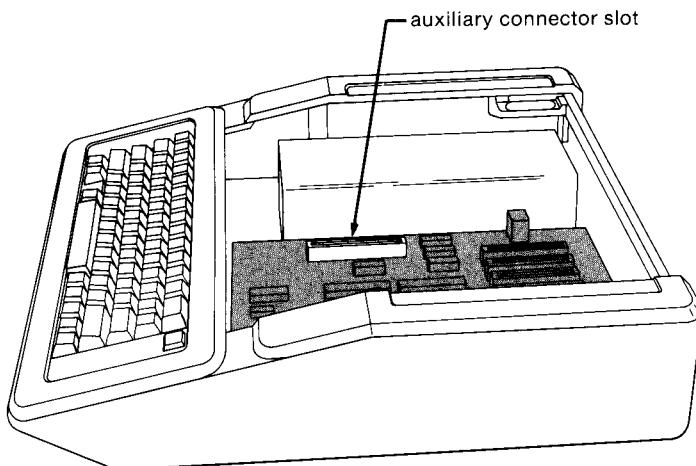

Figure 2.4. Auxiliary Connector Slot
8. Using Figure 2.4 as a guide, locate the AUXILIARY CONNECTOR slot. If there is an accessory board in that slot, remove the board and store it in a safe place.